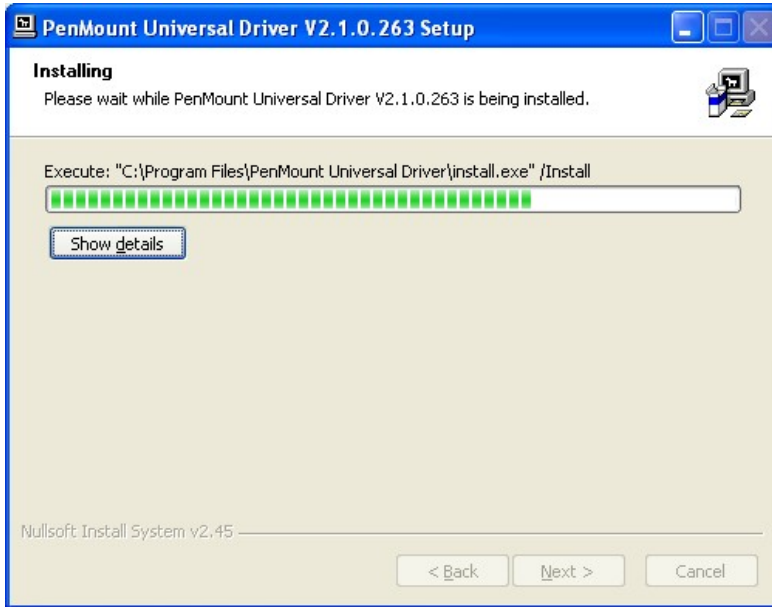

Figure 6-21: Touchscreen Driver Installation Screen
Step 10: The **Install** screen appears and displays the progress of the installation (Figure 6-21).